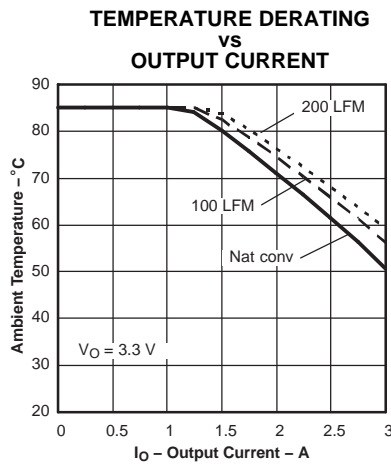
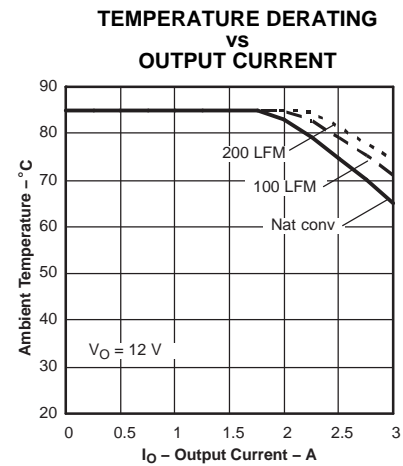

Figure 9.
Figure 11.
- (2) The temperature derating curves represent the conditions at which internal components are at or below the manufacturer's maximum operating temperatures. Derating limits apply to modules soldered directly to a 100 mm x 100 mm, double-sided PCB with 2 oz. copper. For surface mount packages, multiple vias (plated through holes) are required to add thermal paths around the power pins. Please refer to the mechanical specification for more information. Applies to Figure 9 through Figure 11.